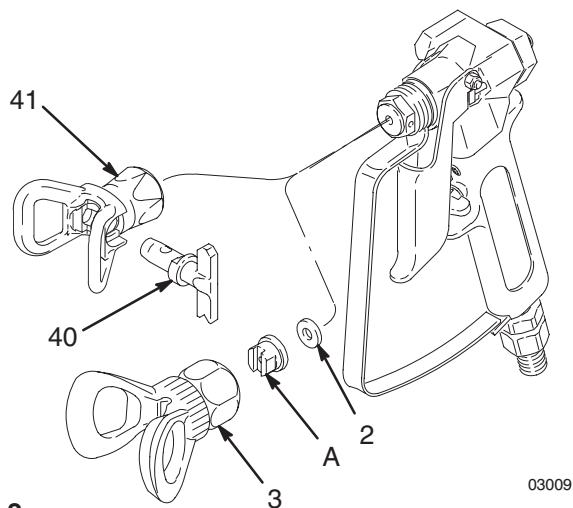

Fig. 2
4. Models 217593 & 235990: unscrew the tip guard (3) and install the tip (A) and the gasket (2) in the nut of the tip guard. Screw the assembly firmly onto the gun. Tighten the assembly with a wrench. See Fig. 2.
5. Models 220955 and 820165: install the SwitchTip (40) and the tip guard (41). See manual 308644, supplied. See Fig. 2.
2. Remove the tip guard assembly. See Fig 2.
3. Squeeze the trigger while unscrewing the diffuser/seat (A) and gasket (B).
4. Remove the locknut (D) and end cap (23).